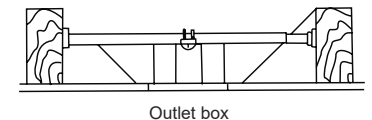

Fig. 4
**NOTE:** Depending on the location you have selected for installation, you may need to purchase and install a joist hanger for the support of the outlet box. Make sure the joist hanger you purchase has been designed for use with ceiling fans. (**Fig. 4**)